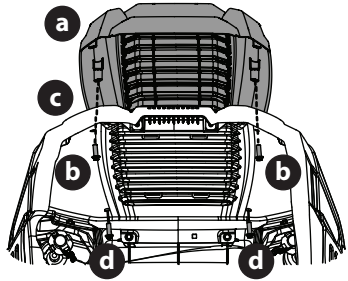

Figure 9
2. Secure the screw-on hood topper (a) from below, hand-tighten the screws (b) on the rear half of the hood and then snug them (Figure 9).
3. With the rear screws in place, align the holes in the hood topper (a) with the holes in the hood (c) and secure in place with remaining two screws (d) (Figure 9).